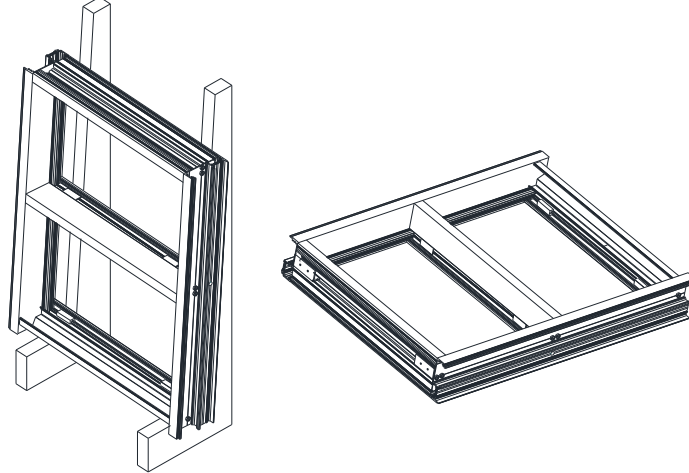

Figure 40: Glazing Orientations
- Unit may be glazed upright or on a flat surface; *Figure 40* shows glazing orientation options.